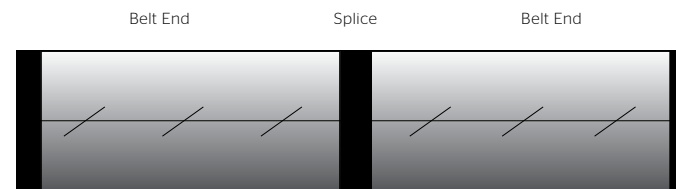

Fig 7-1
- d. Use a square to align these end marks on the belt to the string. Check the remaining center marks and adjust the belt as necessary until all marks are aligned. If necessary, adjust the belt ends to complete alignment. Refer to Fig. 7-1